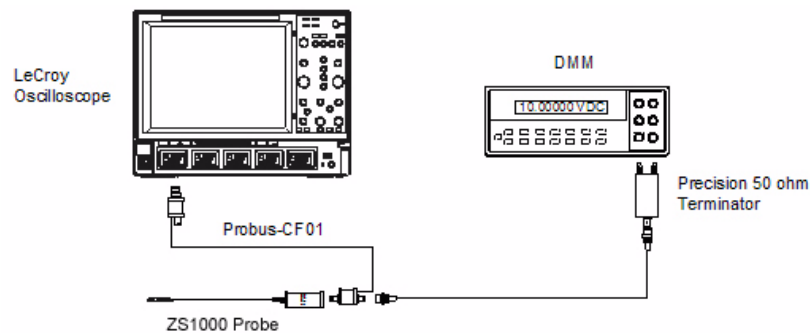

Figure 8-1. Output Zero Voltage Adjustment Setup
2. Connect the banana plugs of the precision 50 Ω terminator to the input of the DMM. Make sure the plug corresponding to the BNC shield (marked 'Ground') is connected to the **LO** or **COMMON** input of the DMM. Refer to Figure 8-1 for setup information.